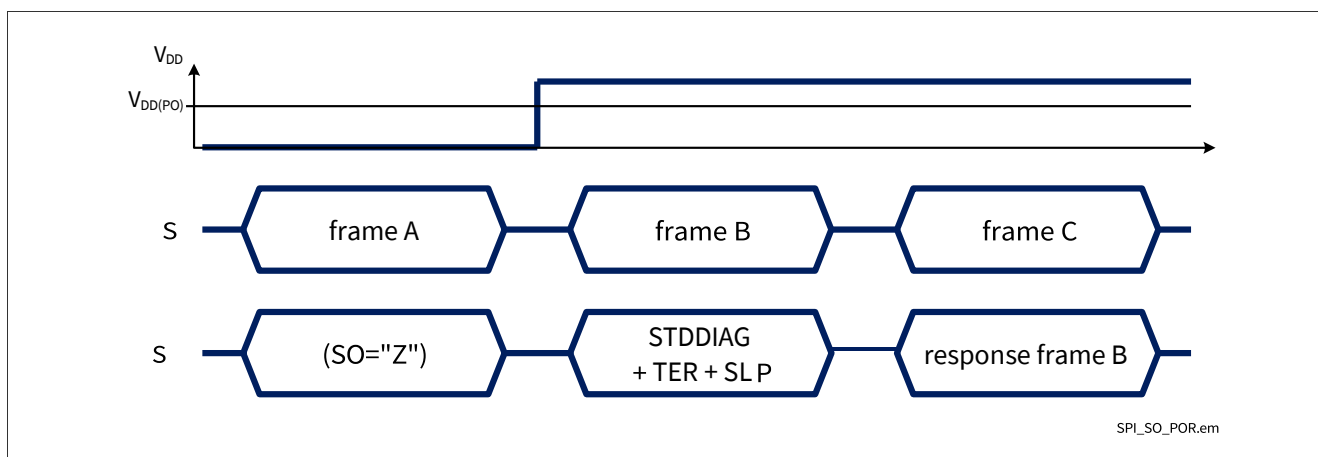

Figure 44 SPI response after coming out of Power-On reset at V_{DD}
- BTS72220-4ESE 数字电源不满足上电复位条件时，如图 44